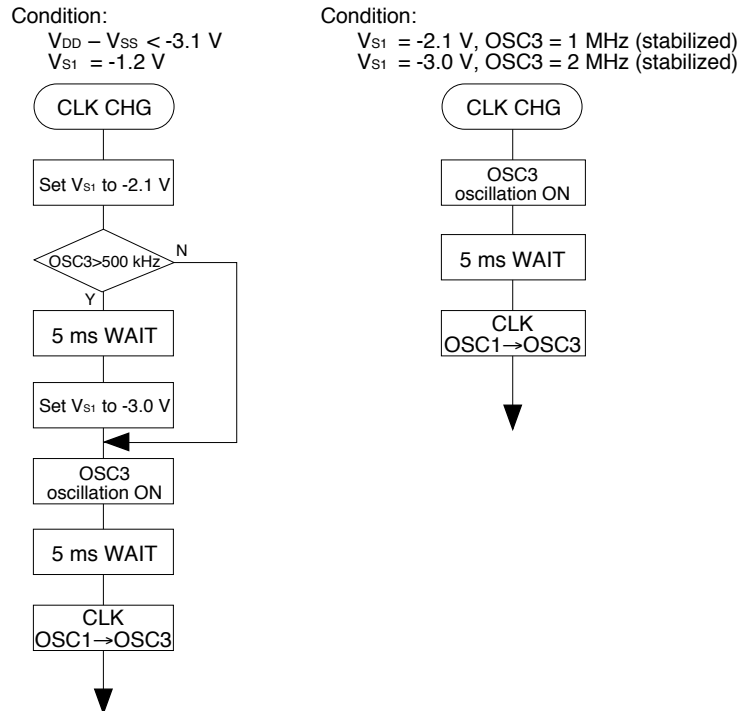

Fig. 5.6.1 CPU operating clock control flow
Note: When switching the CPU operating clock from OSC1 to OSC3, follow the flow chart shown in Figure 5.6.1 and then proceed with software processing.
- (4) When switching the CPU operating clock from OSC1 to OSC3, follow the flow chart shown in Figure 5.6.1 and then proceed with software processing.
- (5) Use separate instructions to switch the clock from OSC3 to OSC1 and turn the OSC3 oscillation OFF. Simultaneous processing with a single instruction may cause malfunction of the CPU.